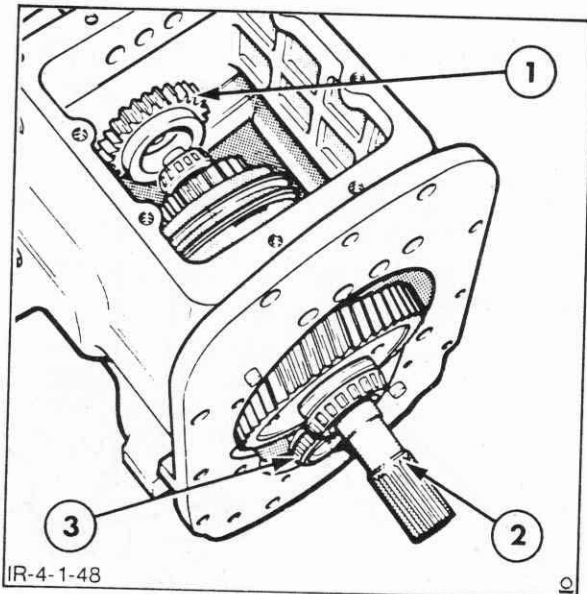

Figure 4-48
1. Release the cord retaining the output shaft and countershaft assemblies together, then lift the output shaft assembly rearwards from the transmission case as shown in Figure 4-48.